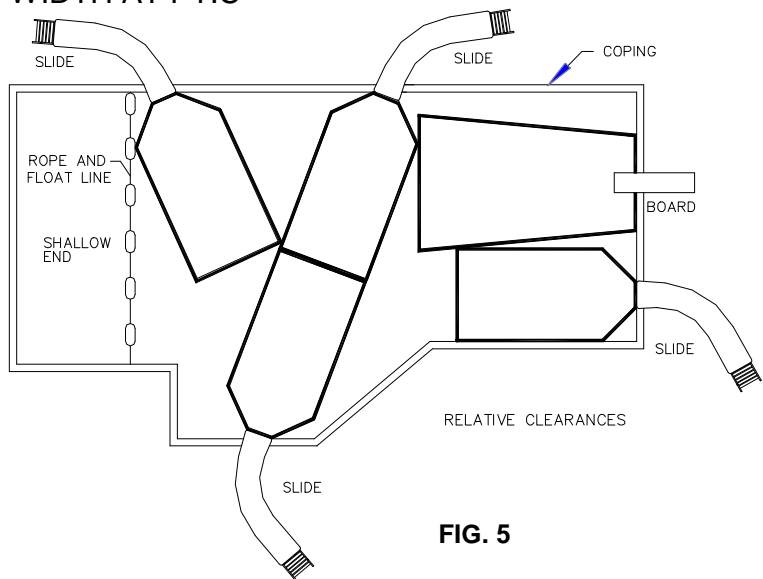

FIG. 5
- C. The minimum clearance area of a slide or diving board shall not intersect any coping or rope and float line as shown in FIG. 5. The minimum clearance area of a slide or diving board may intersect each other provided that they are not used simultaneously.